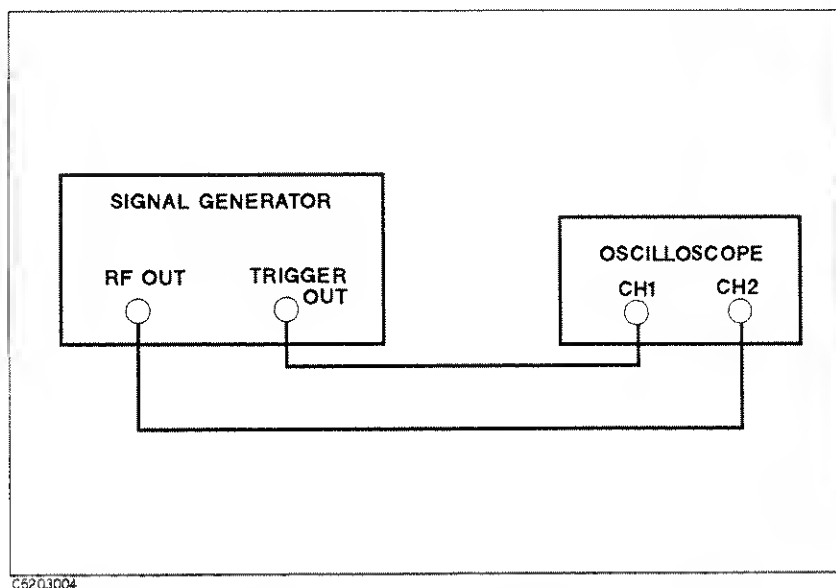

Figure 3-3. Time Domain Measurement Configuration
1. Connect the target signal and the trigger signal to an oscilloscope input (see Figure 3-3).